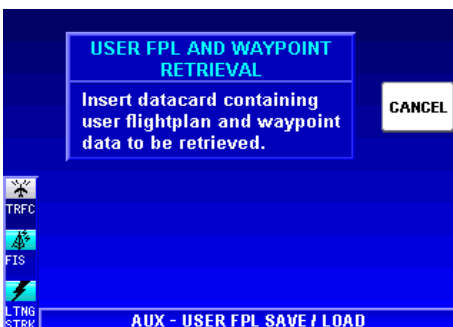

Figure 1-184
6. After pressing the **YES** Softkey, Figure 1-184 will be displayed. As directed, remove the new datacard and re-insert the old datacard.